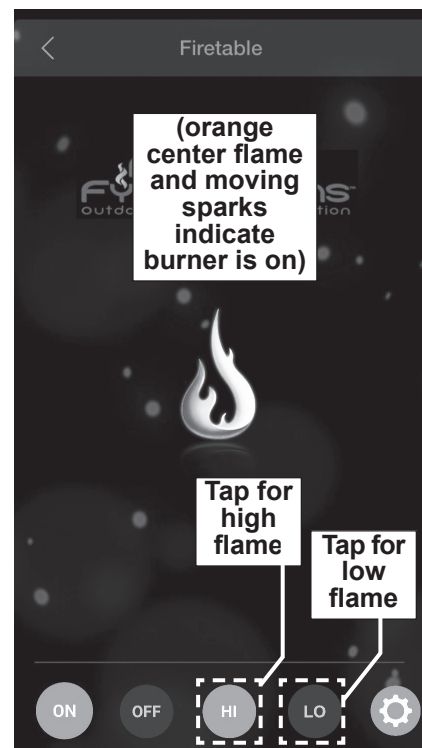

Fig. 37-1 Remote Operation:
1. Locate the **POWER** button on the control panel, and push it (see Fig. 37-1). The light will illuminate indicating the system is on and ready.
2. From within the app, proceed to the Devices screen and select your unit. The remote screen will appear. See Fig. 37-1.
3. Tap the **ON** icon found on the bottom left of your remote screen (see Fig. 37-1).
The flame height can be adjusted via the remote app. Tap the **HI (high)** button to increase the flame height. Tap the **LO (low)** button to decrease the flame height. See Fig. 37-1. (LO setting available after 60 seconds.)
To shut down the burner (system will remain on), tap the **OFF** icon found on the bottom left of your remote screen. The screen will no longer display the orange center flame and moving sparks. See Fig. 37-1. The **AUX CONTROL** button indicator light will also go off.
To shut down the burner and system (total shutdown), or if the remote app is unavailable, push the **POWER** button on the control panel. See Fig. 37-1. The **POWER** and **AUX CONTROL** button indicator lights will go off. (Fully power off when covering or when not in use.)